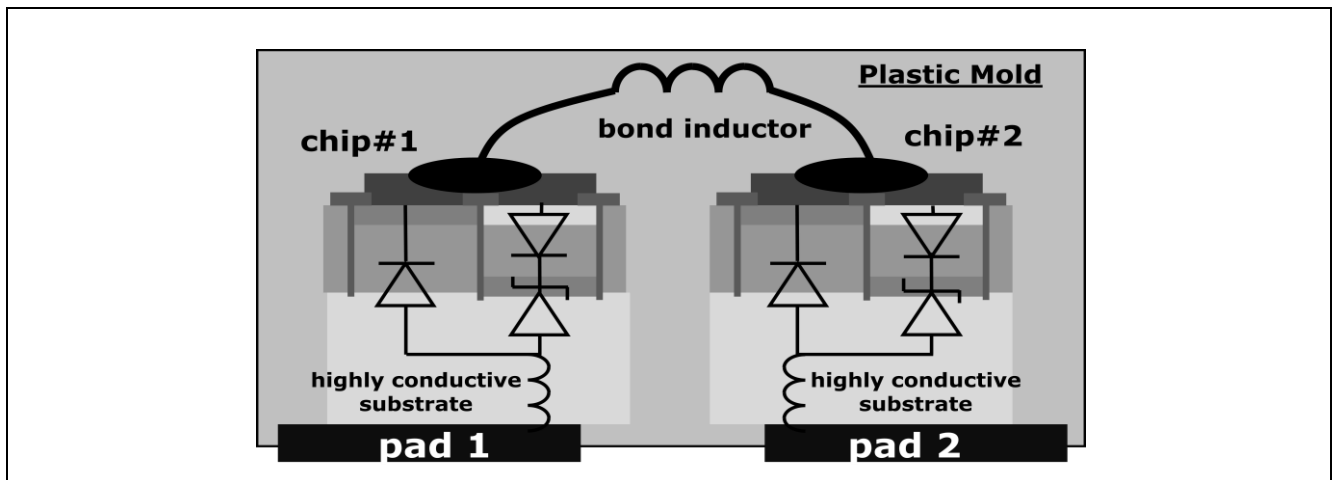

Figure 7 Internal structure of ESD112-B1-02Series
**ESD112-B1-02Series** in plastic package has slightly lower capacitance than other devices. Also, there is a **bigger version** of the device (ESD112-B1-02EL) in 0402 package if PCB technology cannot handle smaller 0201 (ESD205-B1-02ELS) part. Internal structure of ESD112-B1-02Series can be seen in Figure 7.